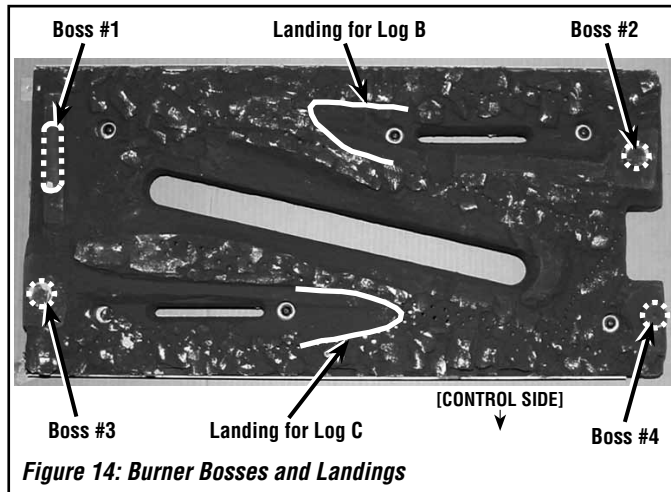
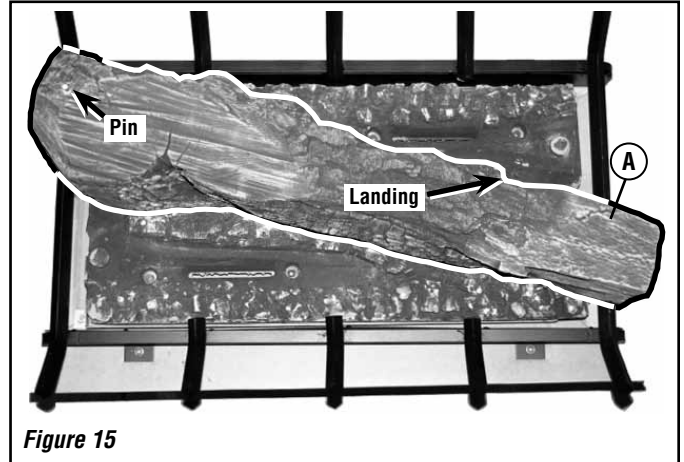
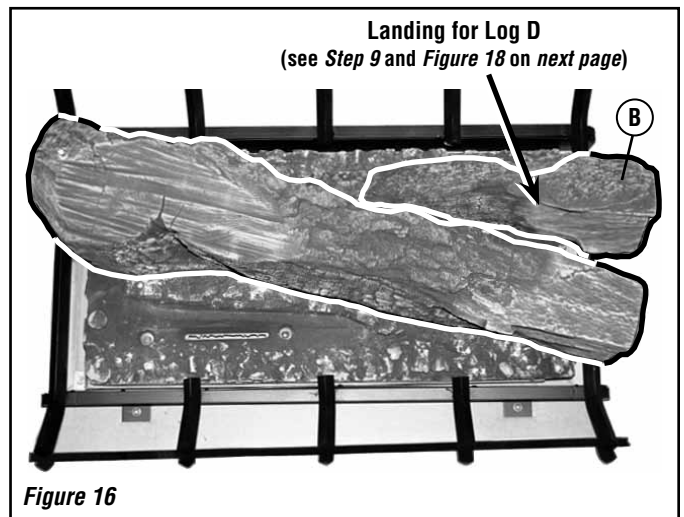

Figure 14: Burner Bosses and Landings
Figure 15
Figure 16
6. Place rectangular notches on underside of **Center Log A** (**Figure 15**) over **Boss #1** and **Boss #4** (**Figure 14**).
7. Place notch on underside of **Right Rear Log B** (**Figure 16**) over **Boss #2** (**Figure 14**).
Place opposite end of **Right Rear Log B** (**Figure 16**) on **Landing for Log B** (see **Figure 14**).
8. See **Figures 14 and 17**. Place notch on underside of **Left Front Log C** over **Boss #3**.
Place opposite end of **Left Front Log C** on **Landing for Log C** (see **Figure 14**).
The middle section of **Log D** will rest on the landing on **Log B** (labeled as "Landing for Log D" in **Figure 16**).